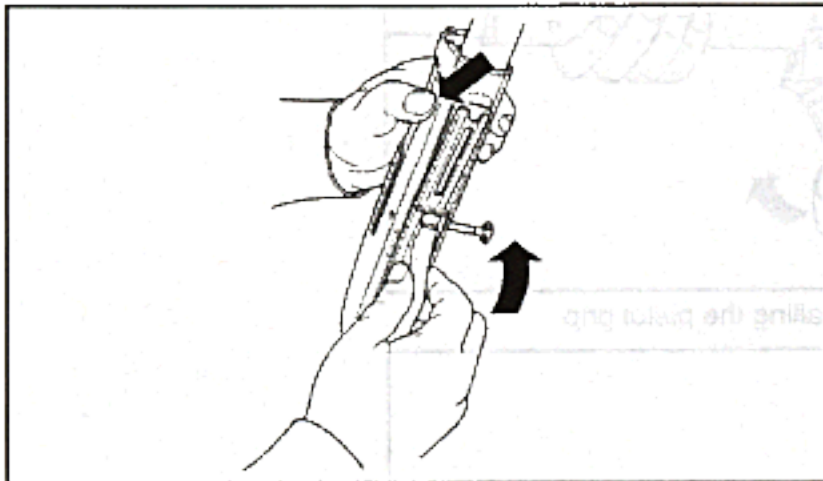

Figure 37. Installing the trigger group in the receiver
- A. **Depress bolt release button (Figure 37)** – Depress and hold in the bolt release button while installing the trigger group into the receiver to avoid damaging the shell stop and shell release levers.
- D. **While holding in the bolt release button**, insert the rear tang of the trigger group into the opening for it in the receiver. Rotate the front of the trigger group upwards into place in the receiver until the hole for the trigger group locking pin aligns (**Figure 37**).